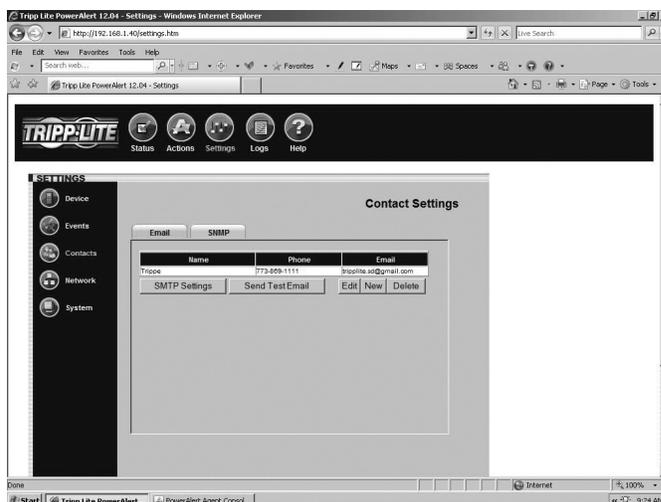

Figure 3-13: Settings > Contacts > Email Tab
- **“Contact Notification”**—Sends an e-mail to an e-mail address in your contact list. (Requires an e-mail contact to be set. See **Figure 3.13 Settings > Contacts**.)
- **“SNMP Trap Notification”**—Sends an SNMP trap to a specified IP address in your SNMP list. (Requires an SNMP contact to be set. See **Figure 3.13 Settings > Contacts**.)
- **“SNMP Set Notification”**—Allows the device to perform an SNMP set on another SNMP-enabled device or application on the network, allowing the device or application to be notified when the event occurs. (Requires an SNMP contact to be set. See **Figure 3.13 > Contacts**.)
The “Email” tab (Figure 3-13) shows a table of e-mail contacts. Before your SNMPWEBCARD can send e-mail notifications, you must enter e-mail server information and add at least one e-mail contact. Click the “SMTP Settings” button to enter the settings for your mail server. If you do not know the correct settings, contact your network administrator. Add a new e-mail contact by clicking the “New” button and entering the information requested in the pop-up window. Test your settings by clicking the “Send Test Email” button.